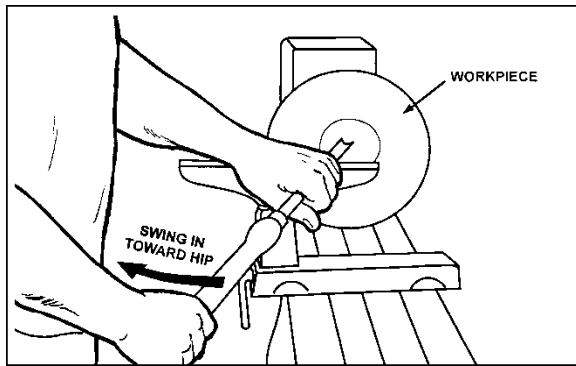

Figure 28
5. Place 1/2" bowl gouge on tool support at center of the workpiece with the flute facing top of bowl. The tool handle should be level and pointed toward the four o'clock position, as shown in Figure 28.
- Use the left hand to control cutting edge of gouge, while right hand swings tool handle around toward your body (Figure 28). The flute should start out facing top of workpiece, and rotate upward as it moves deeper into the bowl to maintain a clean even curve. As the tool goes deeper into the bowl, progressively work out toward the rim. It may be necessary to turn the tool support into the piece as you get deeper into the bowl.